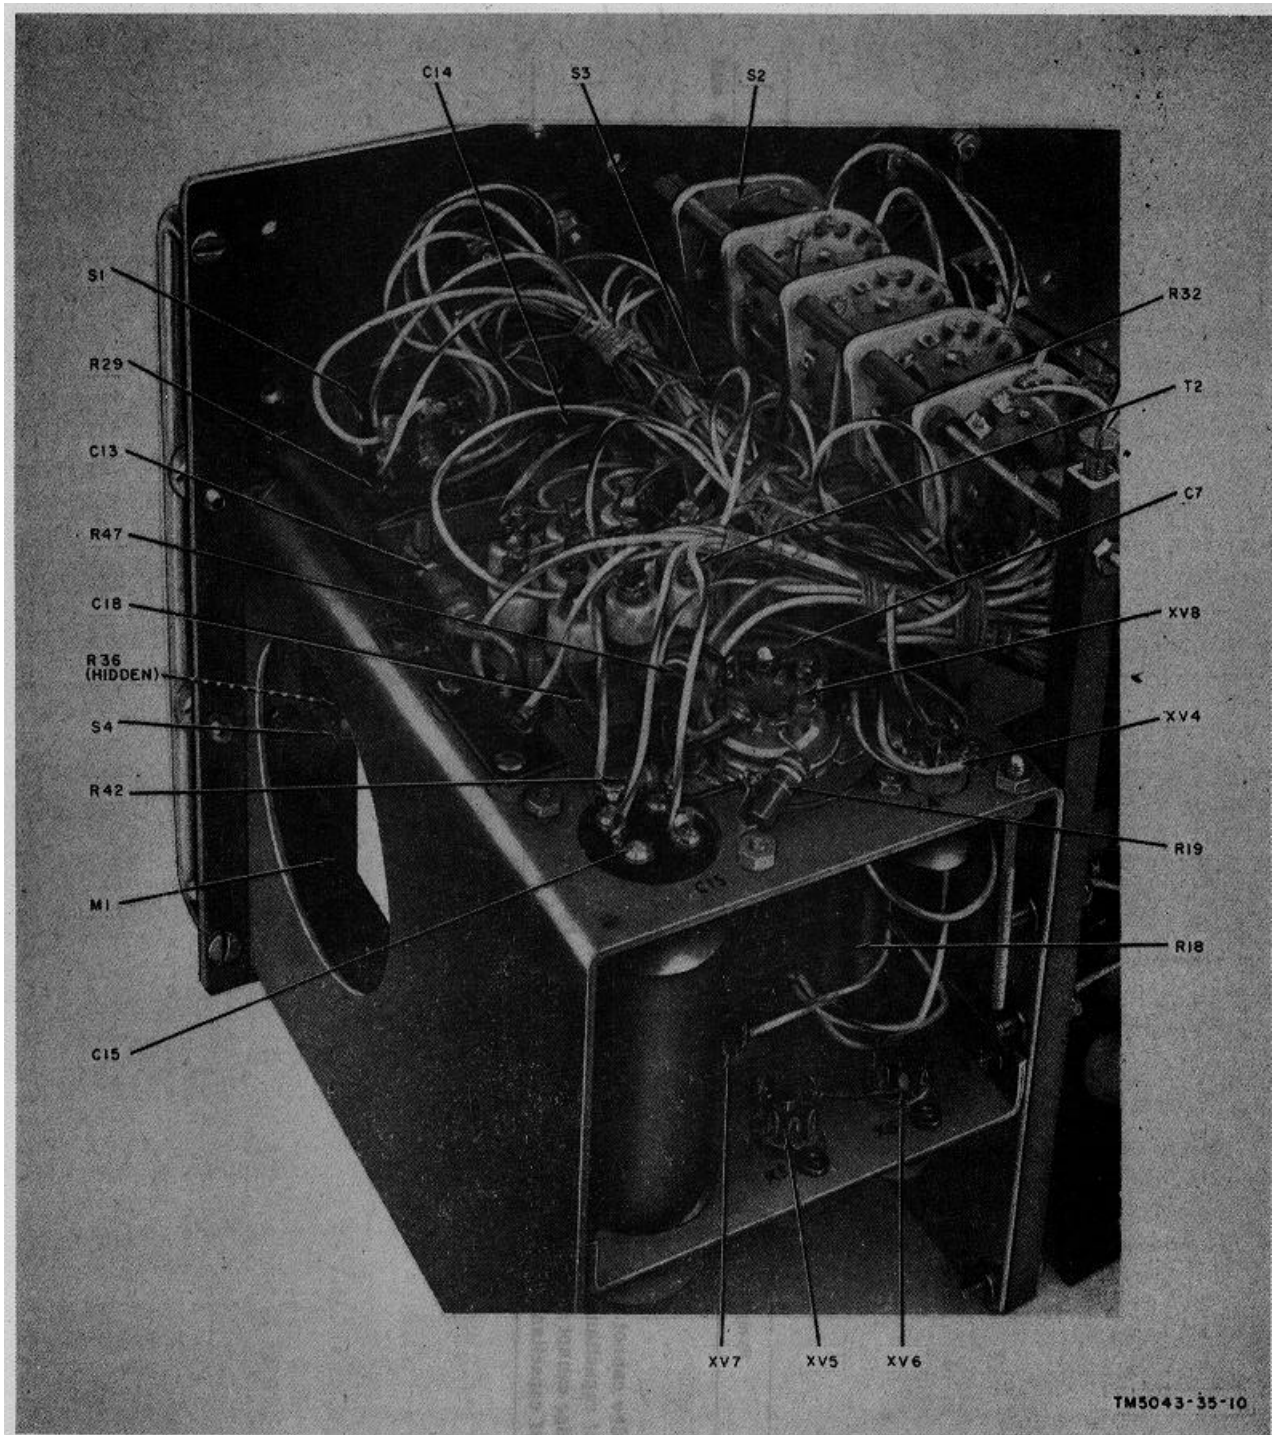

Figure 13. Low voltage power supply chassis and voltage regulator chassis, location of components.
*a. General.* In the troubleshooting chart (d below), procedures are outlined for localizing troubles in the analyzer. Parts locations are indicated in figures 13 through 17. Voltage and resistance measurements are shown in figure 18. Depending on the nature of the operational symptoms, one or more of the localizing procedures will be necessary. When trouble has been
Shorted capacitor C11, C15A, or C15B .....	Replace defective capacitor (fig. 13).
Defective switch S2C or S5.....	Replace defective switch (figs. 13 and 15).